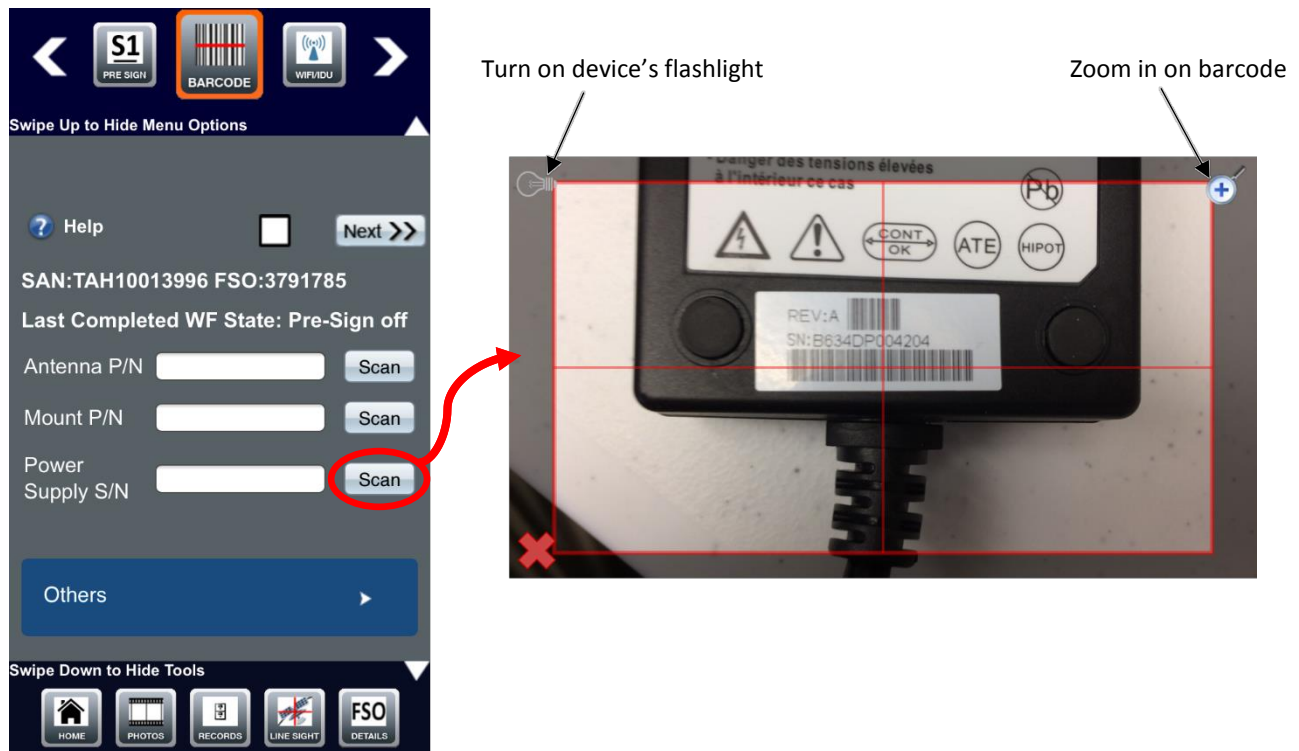

Figure 22: Barcode step
The Barcode step (Figure 22) requires you to scan the serial numbers (S/Ns) or part numbers (P/Ns) of the materials you use in your installation (e.g., antenna, mount, modem power supply).
1. Tap **Scan** (circled in Figure 22) next to the item for which you need a serial/part number. Your device's camera launches.
2. Center the barcode within the red crosshair that appears on the screen. Ensure your smart device focuses on the barcode. See Figure 22.